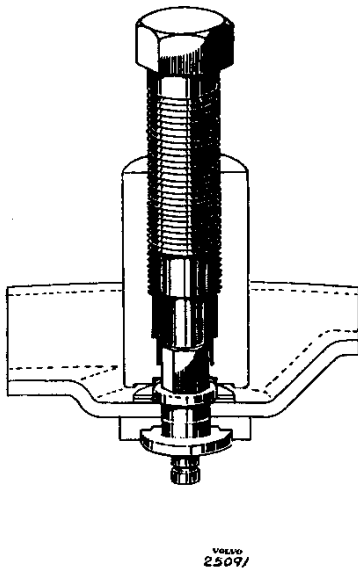

Fig. 28. Removing the tool.
4. Screw in the bolt and pull the tool off the stud, see Fig. 28.